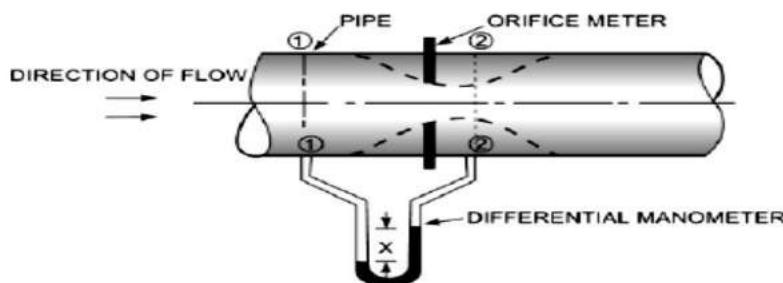

Fig.5.5. Orificemeter
- Consider an orifice meter is fitted in a horizontal pipe through which a fluid is flowing as shown fig 5.5.